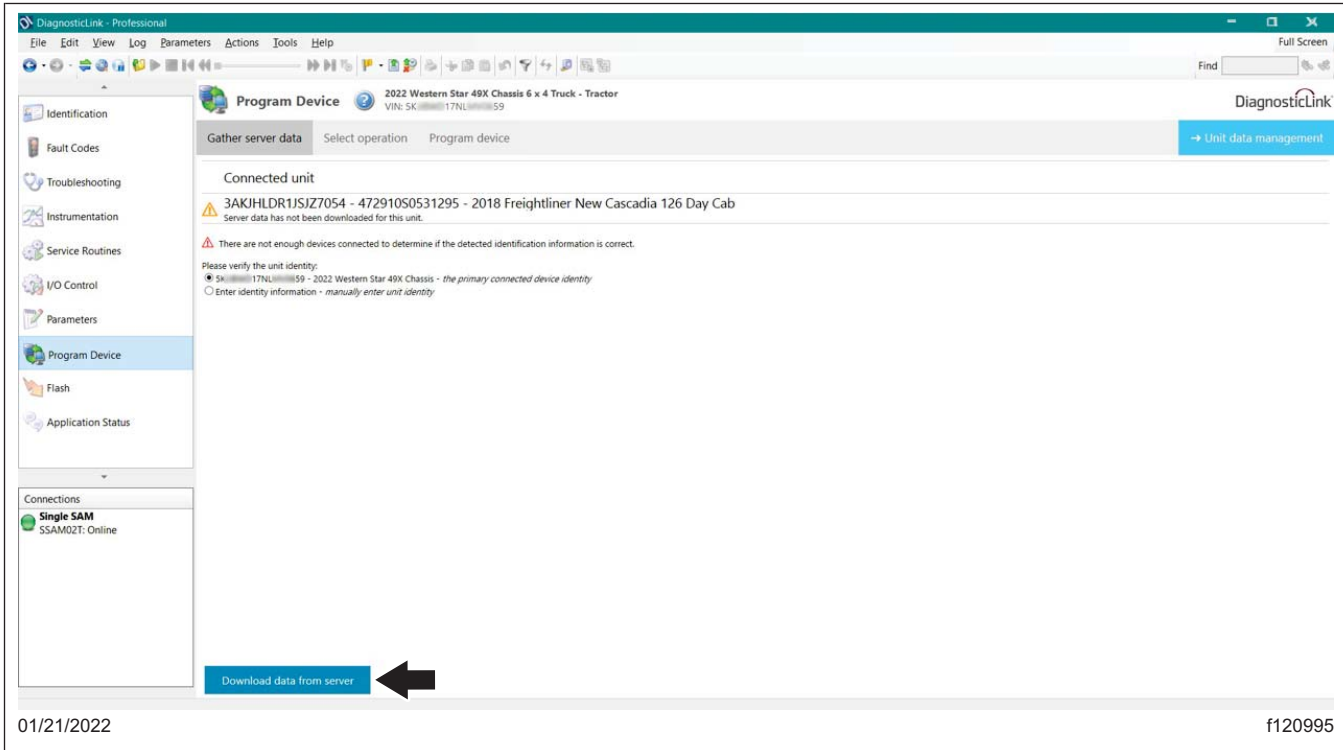

Fig. 9, Downloading Data from the Server
- Select the 'Gather server data' tab and select the vehicle identification number (VIN). Then select 'Download data from server.' See Fig. 9.